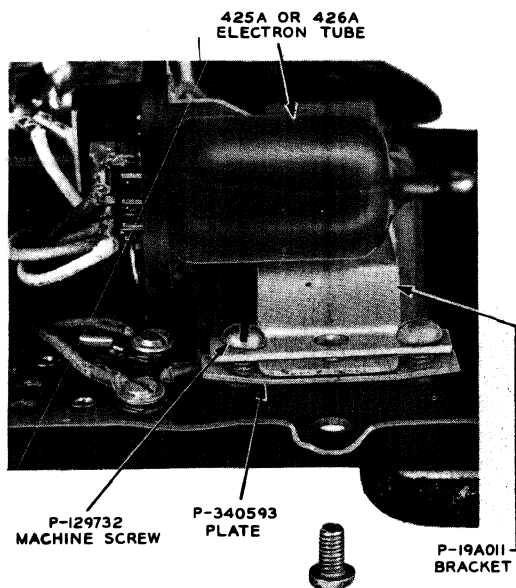

FIG. 4—ELECTRON TUBE BRACKET ASSEMBLY
- 4.03 The electron tube bracket for the 5306-type telephone set is placed as shown in Fig. 4.